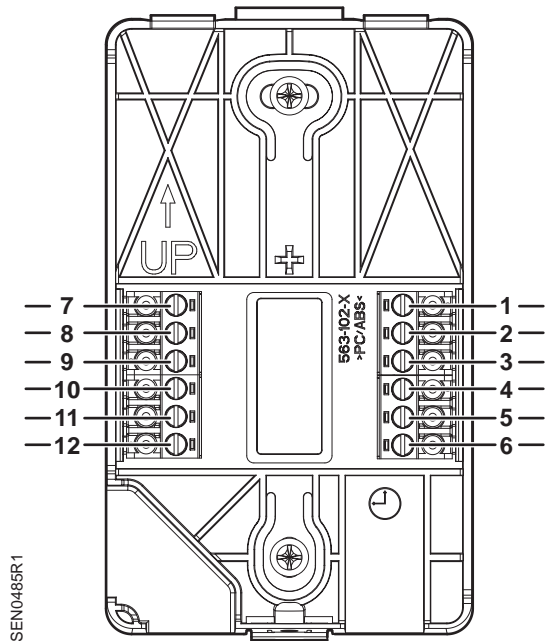

Figure 6. Typical Wiring Base.
When applying the adhesive-backed gasket to the back of the Sensor Base, orient the gasket so that the cut-out arrow portion of the gasket is in the upper lefthand quadrant of the Sensor Base. The Sensor Base has an UP arrow molded into the surface in the same quadrant location (see Figure 6).
7. Terminate the wires to the termination blocks on the room unit's base plate. (See Figure 6.)